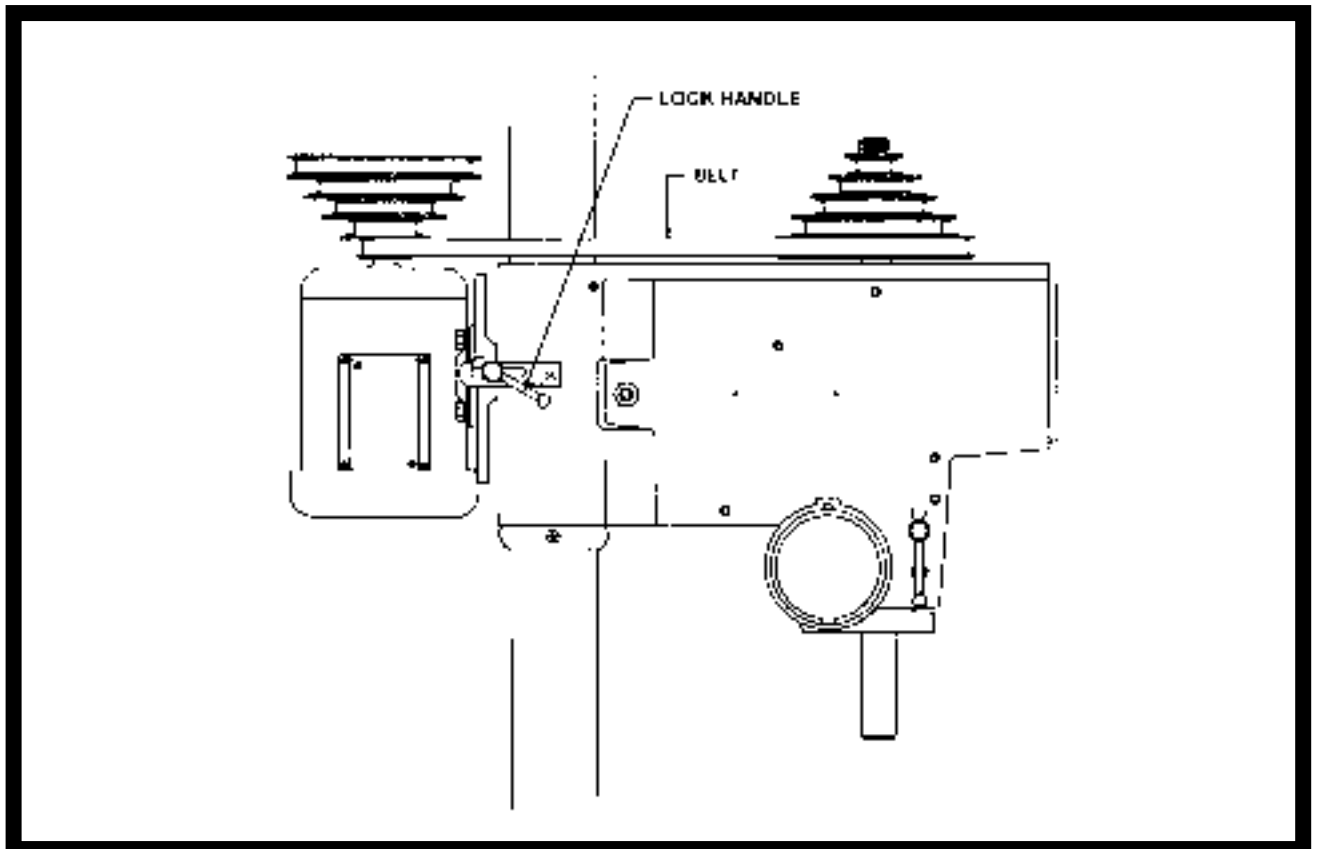

FIGURE 2
- c. Loosen lock handle (Fig. 2) and place belt over pulleys and into lowest speed grooves. Push motor base clamp to rear for light belt tension and turn lock screw clockwise to lock. Too much tension will cause excessive vibration, shaft breakage, bearing noise and wear.
Speed changes on step pulley models are to be made with the machine not running - loosen motor base clamp (Fig. 2) and pull handle toward operator. Belt is now free to move to any of the 5 speeds available. When speed choice is made, move handle to rear for proper tension and lock the motor base.